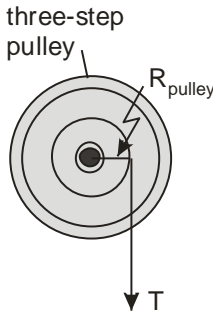
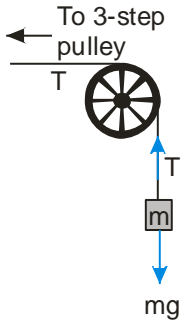

Figure 2 - Torque on the three-step pulley.
Figure 3 - Force diagram for hanging mass, m .
Torque is defined as the lever arm times the force. For example, the torque about the center of the disk in the Figure 2 is $\tau = R_{\perp}F$ where R_{\perp} is the lever arm and, F is the applied force. The symbol I is the moment of inertia. It is a measure of "resistance" to the change in rotational speed. The moment of inertia for a point mass m that is at a distance R from the axis of rotation is
* From figure 2, the torque on the 3-step pulley is $\tau = R_{pulley}T$ where T is the tension in the string and is due to the hanging mass, m (figure 3). When m is free to drop, the equation of motion is